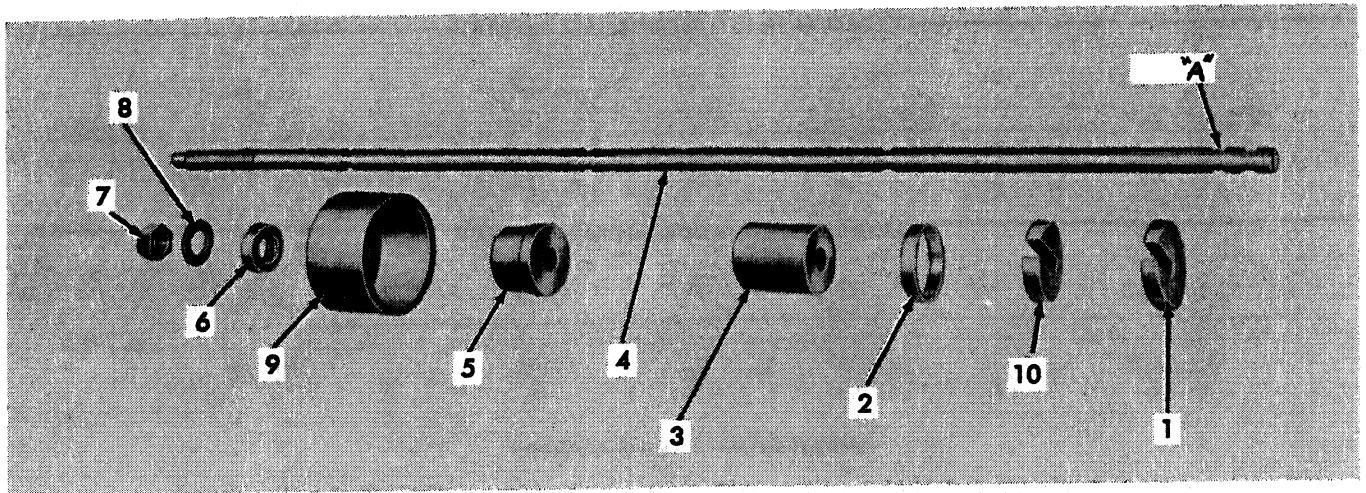

Fig. 5 - Camshaft Bearing Removing and Installing Tool Set (T-20252)
7. Using a camshaft bearing removing and installing set similar to the one shown in Fig. 5, proceed as shown in Fig. 6 to remove the old and install new camshaft bearings.